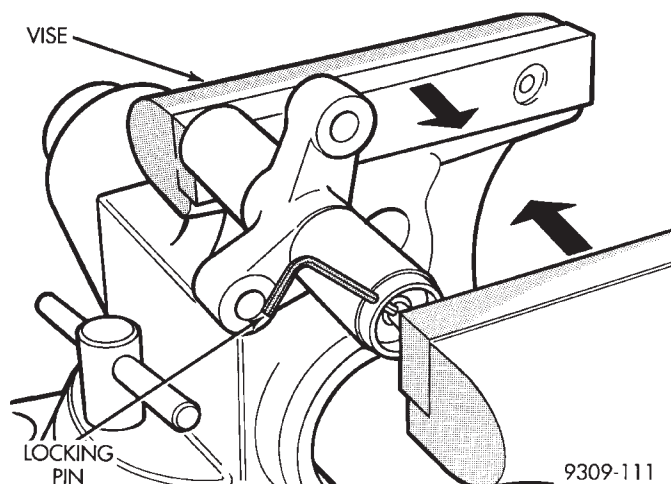

Fig. 69 Compressing Timing Belt Tensioner
(12) Place the tensioner into a vise and SLOWLY compress the plunger (Fig. 69). Total bleed down of tensioner should take about 5 minutes.